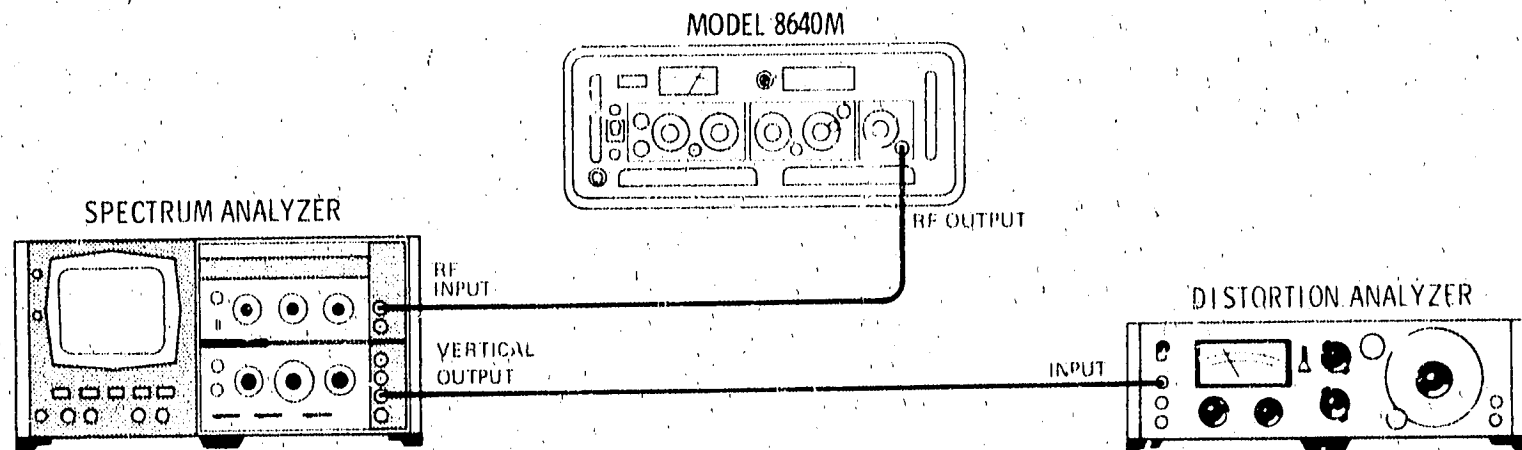

Figure 4-8. AM Distortion Test Setup
- Connect equipment as shown in Figure 4-8 after setting Signal Generator's controls as follows: